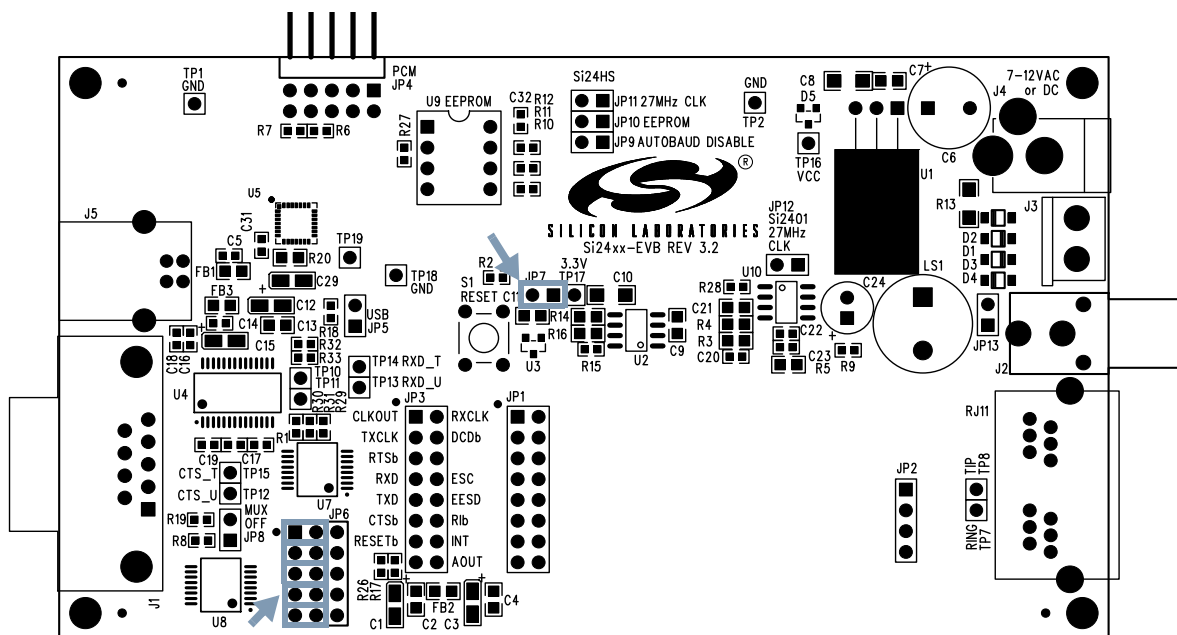
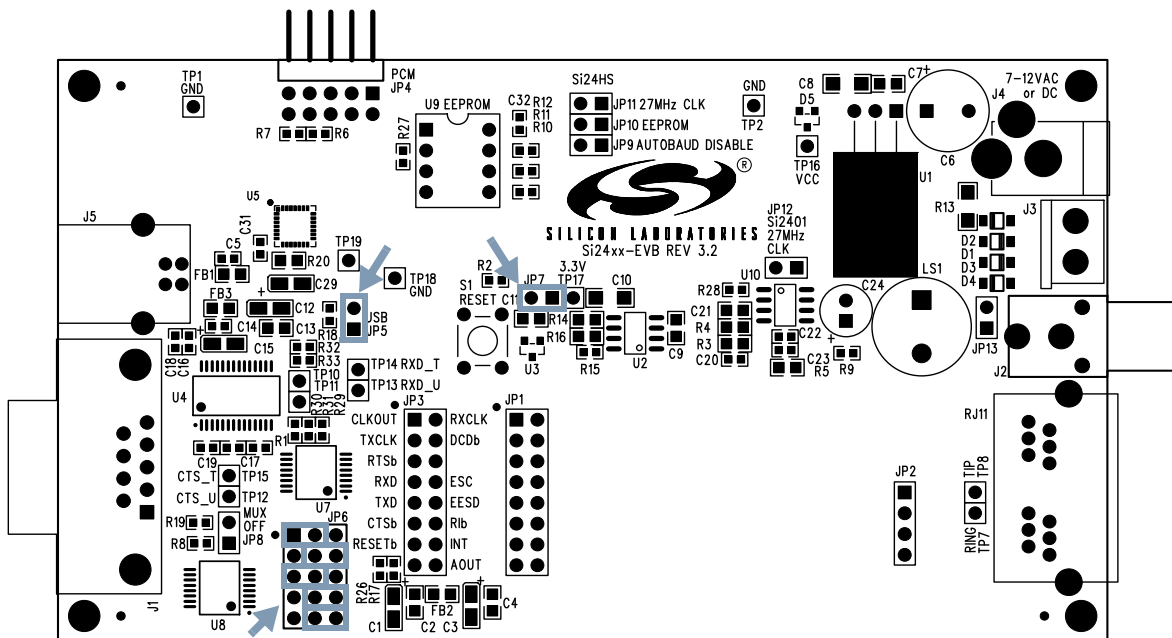

Figure 1. Standard Factory Jumper Settings—RS-232 Interface (Outlined in Gray) (FT Option)
Figure 4. Standard Factory Jumper Settings—USB Interface (Outlined in Gray) (FS Option)
1. Set jumpers according to Figure 1 or Figure 2.
1. Set jumpers according to Figure 3 or Figure 4.
Check all jumper settings on the Si2493/57/34/15/04-EVB before applying power. The standard factory jumper settings for the FT package are shown in Figure 1; the FS package is shown in Figure 2. These settings configure the Si2493/57/34/15/04-EVB for RS-232 serial operation with autobaud. Any standard terminal program configured to communicate through a PC COM port can be used to communicate with the Si2493/57/34/15/04-EVB. The standard factory jumper settings for USB operation with the FT package are shown in Figure 3; the FS package is shown in Figure 4. The only difference between RS-232 and USB jumper settings is that JP5 must be installed to enable USB.
This operation mode uses the standard factory jumper settings illustrated in Figure 1 on page 2. The Maxim MAX3237 transceiver interfaces directly with the TTL levels available at the serial interface of the Si2493/57/34/15/04 and, using internal charge pumps, makes these signals compatible with the RS-232 standard. The RS-232 transceiver on the Si2493/57/34/15/04-EVB can communicate at rates between 300 bps and 1 Mbps. This simplifies the connection to PCs and other data terminal equipment (DTE). The signals available on the Si2493/57/34/15/04-EVB serial interface (DB9 connector) are listed in Table 2.